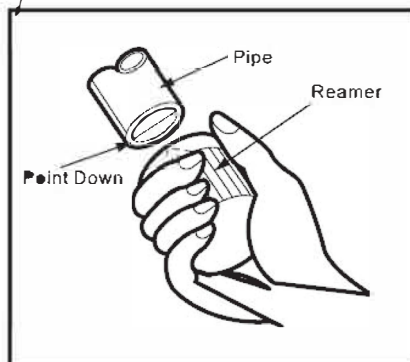

Fig. C.6.4
- 2 Remove burrs on the cutting edges. Keep the pipe outlet down to avoid getting the metal burrs into the pipe (Fig. C.6.4).